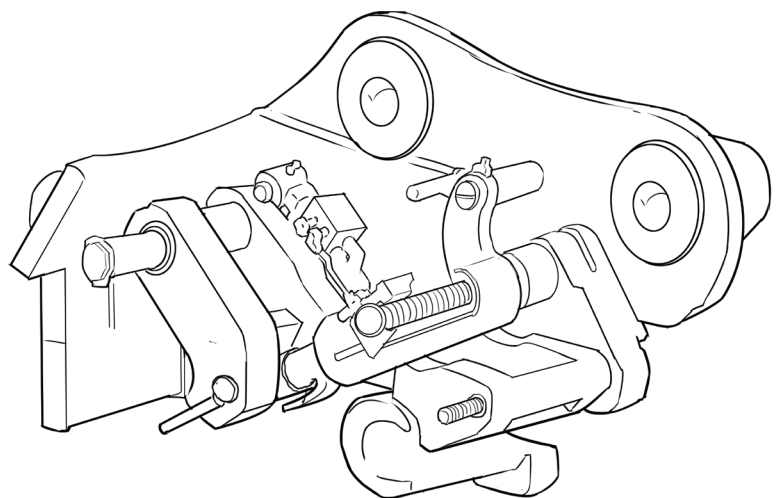

Figure 2 - Fully automatic double-locking type
* A double locking quick-hitch must have a device that physically locks or secures both pins of the accessory. (See figure 2).